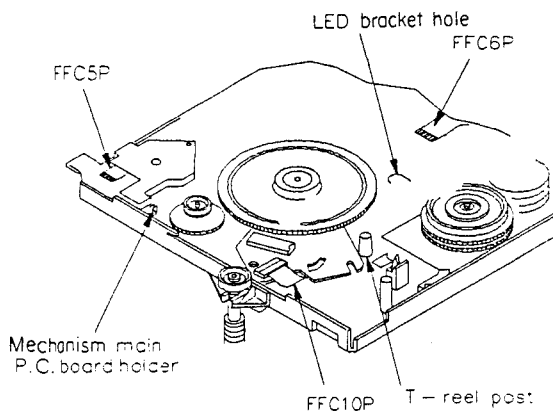

Fig. 4-15-8
8. When mounting, insert the LED section onto the LED bracket hole so that the claws of the LED bracket do not engage the main base completely (Fig. 4-15-8). Next, mount the P.C. board on the T-reel post and the mechanism main P.C. board holder section securely, using the previous steps in reverse order. In this case, take care that FFC5P, FFC6P, and FFC10P are not jammed between the parts.